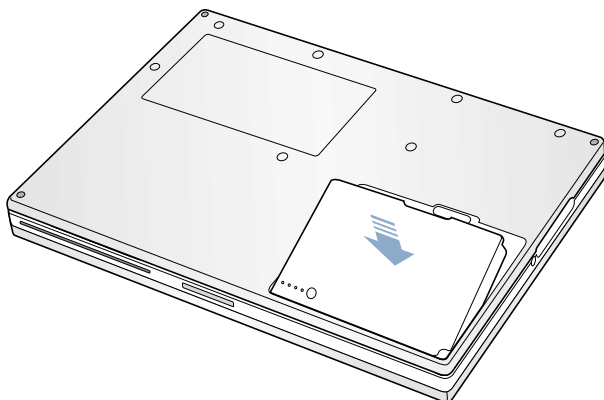

Figure 11
7. Replace the battery into the battery compartment (**Figure 11**).